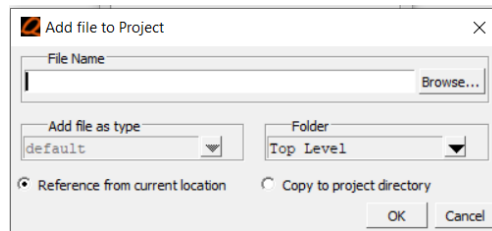
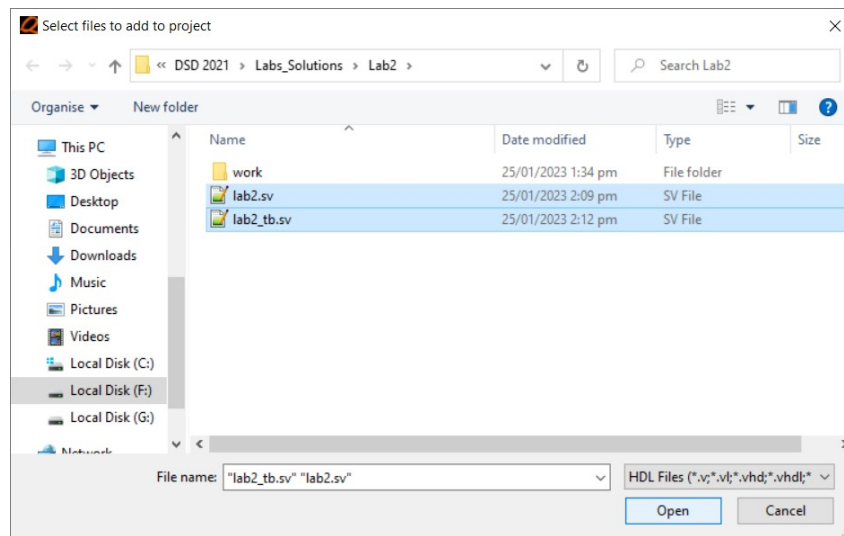

Fig. 2.5: Add File to the Project window.
Fig. 2.6: Adding RTL and test bench files to project.
- Next click on *Browse* (Fig. 2.5) and select the System Verilog RTL and test bench code file (Fig. 2.6), click *Open* and then click *OK*.